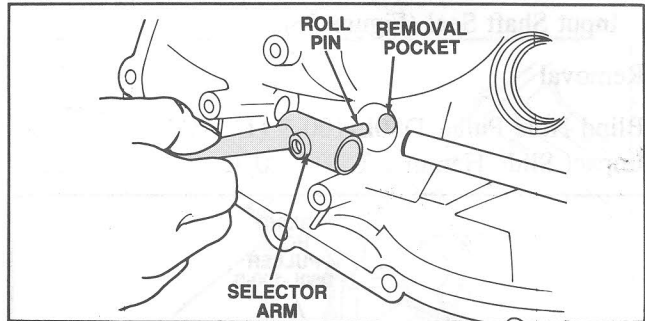

Figure 53 Roll Pin Removal Pocket
**CAUTION:** Before removing the selector arm roll pin, move the input shift rail until the pin is located over the removal pocket molded into the case. (Figure 53).